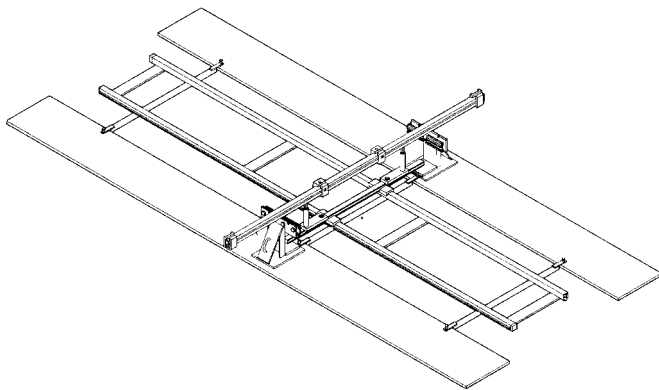

Figure 23
8. Place overhead bar across top of clamps, directly over 'C' cones. (See Figure 23.)